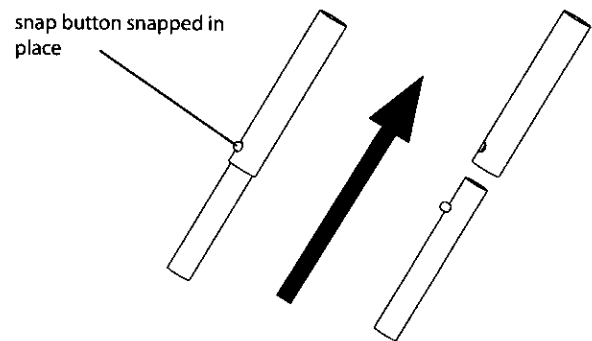

Figure 9
8. Assemble the two sets of door spreader poles (69356 & 69357) by sliding the male half into the female half and snapping in place with snap button. **SEE FIGURE 9.**
1. Unzip door and move to the inside of shelter and extend the (3) top cross brace poles and snap into place. Place back spreader pole with stud, both roof spreader poles and both door spreader poles into position by snapping C-clip over cross brace poles. For back spreader pole, simply place end with stud into pre-drilled hole in back lip of sled. Attach all Velcro loops to cross brace poles. **SEE FIGURES 9 & 10.**